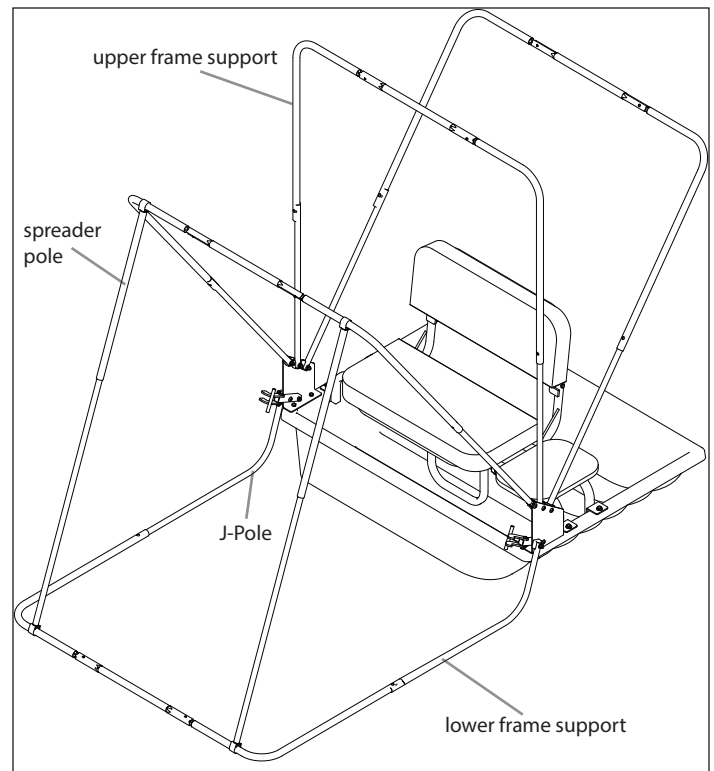

FIGURE 9
17. Install the door spreader poles between the lower frame support and the front upper frame support. Extend the front upper frame support and snap it into the in-use position. Finish by locking the (2) spreader poles as far out to the corners as possible. **SEE FIGURE 9**